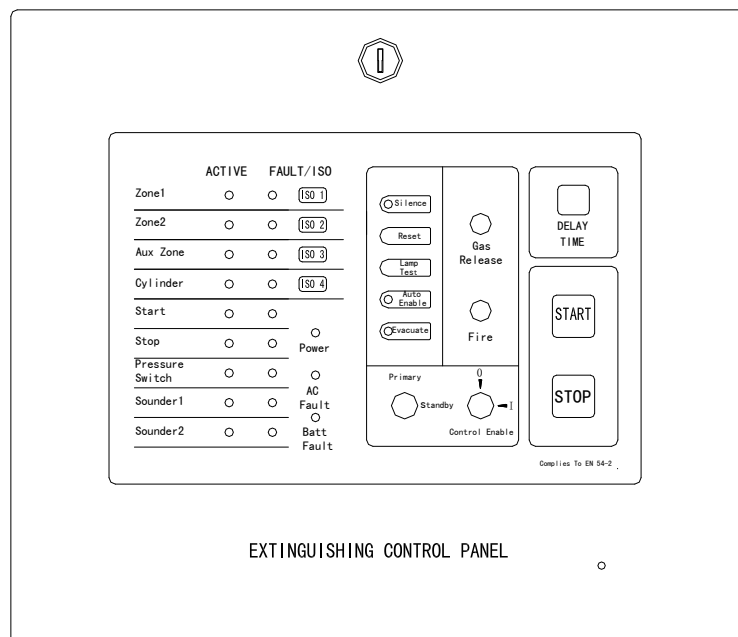

Fig. 2 Front panel
1) Front panel of GST301 is shown in Fig. 2.